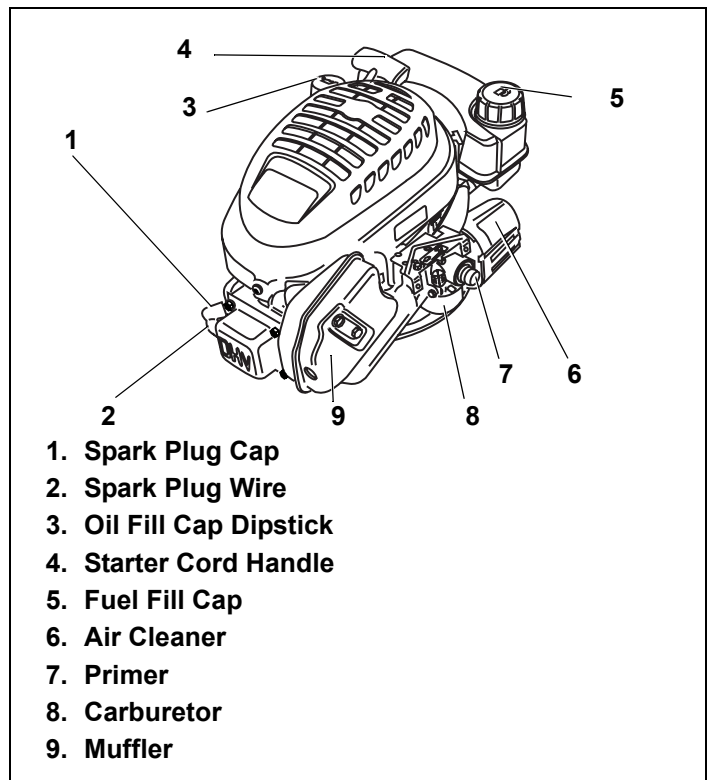

Figure 15. Engine Components
3. When starting a cold engine, press primer bulb firmly 3 times, allowing primer bulb to return completely to original position between pushes. See Figures 15 and 20 starting on page 8. Afterward, continue reading instructions below.